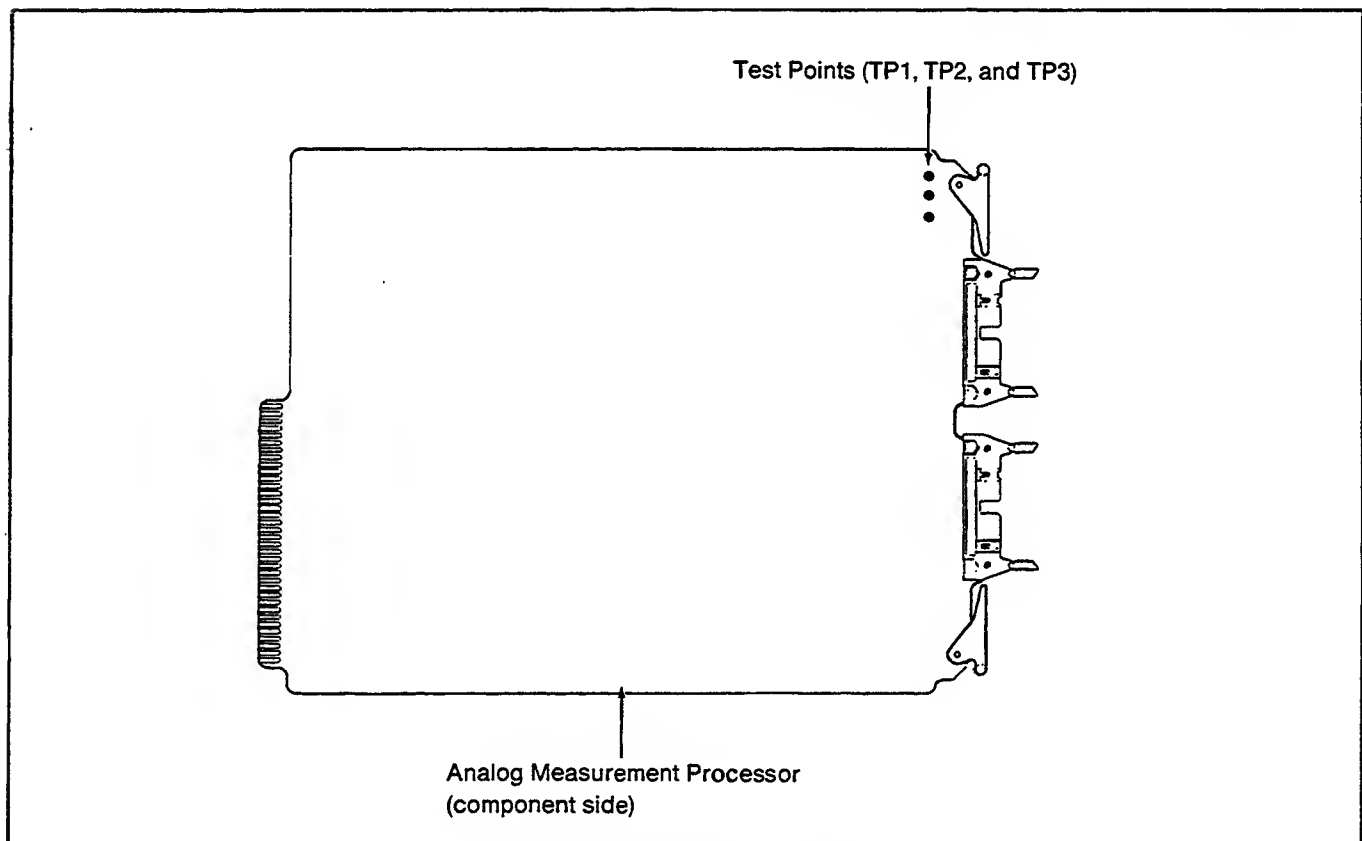

Figure 010-9. Test Point Locations
9. Connect the + input lead of the DMM to TP2 and the - input lead to TP3. Refer to Figure 010-9 for test point locations. Using the 1752A keyboard, enter the reading of the DMM to the nearest 100 μ V following the 6.95V reference prompt.